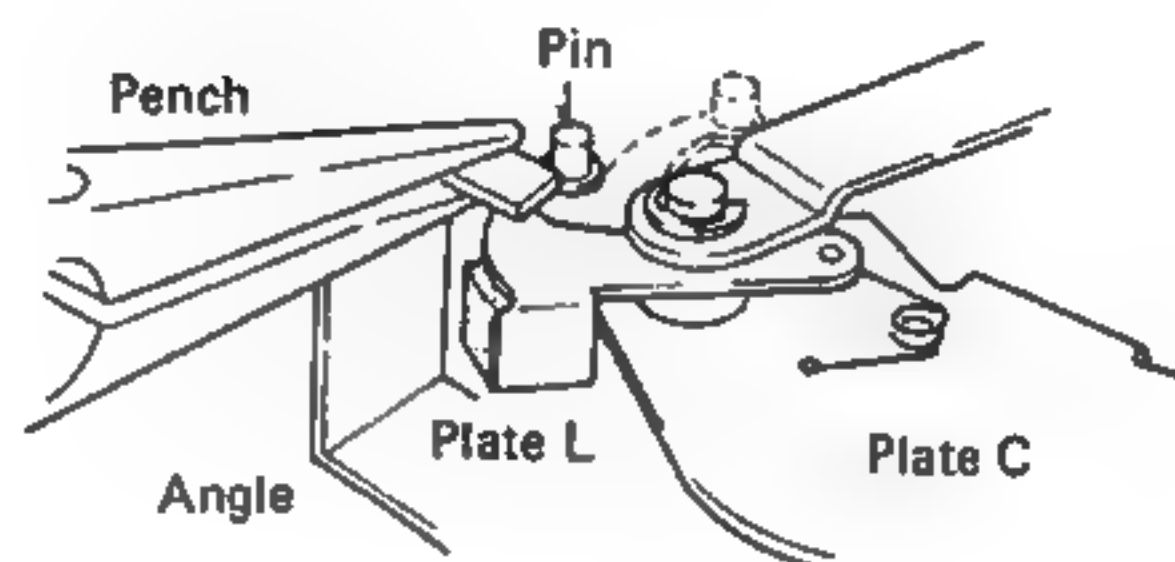

Fig. 19
1. Adjust stopper angle so that pin of plate L and stopper angle contact (Fig. 19).